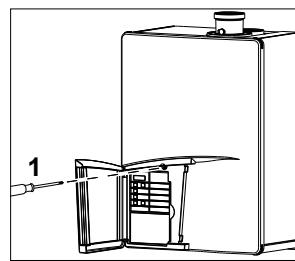

figure 1
**Remove the casing (see figure 1 and 2):**
- c. remove the screw (1) behind the door on the front of the casing
- d. Lift the casing (2) and remove it towards the front (3)